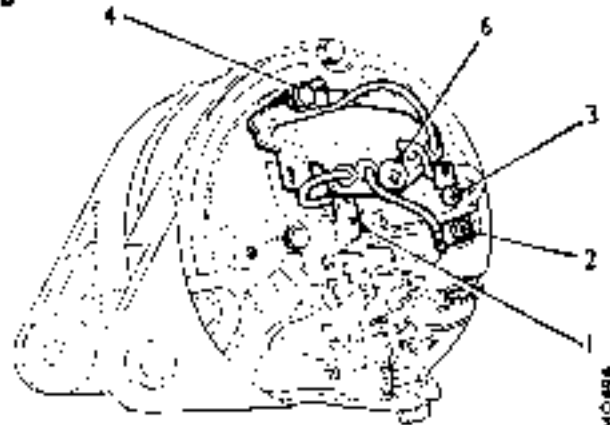

Fig. N.29
The construction of the model 16ACR alternator is similar to the 16AC as illustrated in Fig. N.25, except that a voltage regulator of micro-circuit construction is incorporated on the slip-ring end casing (see Fig. N.29). The procedure given for removing, testing, and dismantling the 16AC alternator in Section N.25, operations 9 to 36, should be followed. For regulator removal see operations 17 to 18 of this Section.
7. Bridge the regulator green connector 'F' to earth (see Fig. N.29).